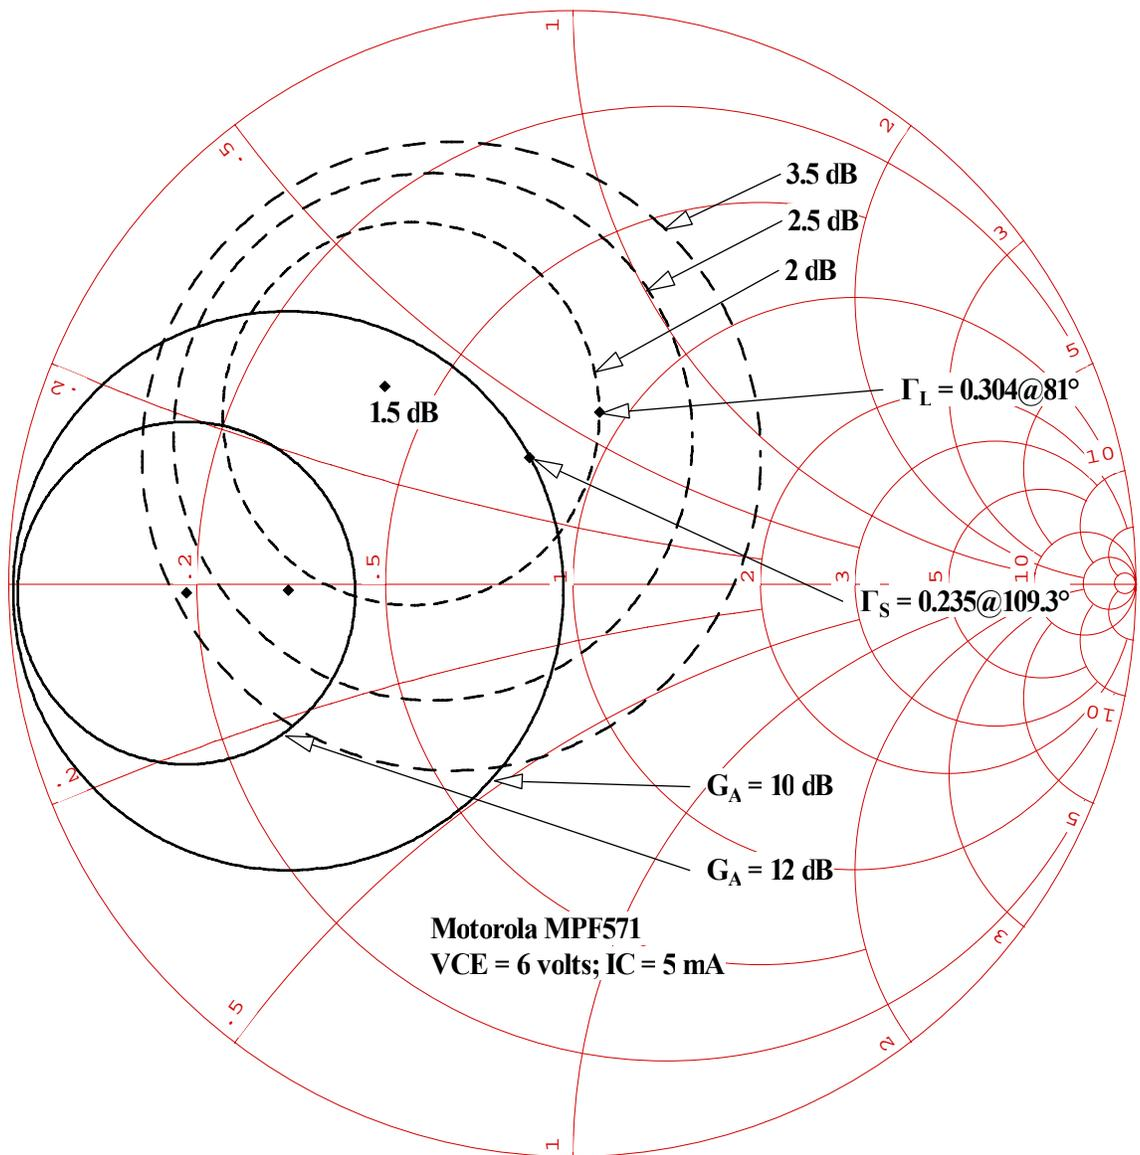

Figure 3.5a
6. The Load Reflection coefficient of $0.304 @ 81^\circ$ is calculated by using the **Load Refl. Calc...** under the **Functions** menu. The plot for this procedure is shown in Figure 3.5a.
5. The Load Reflection coefficient of $0.245 @ 98^\circ$ is then calculated by using the **Load Refl. Calc...** dialog procedure under the **Functions** menu. The plot for this procedure is shown in Figure 3.5a.